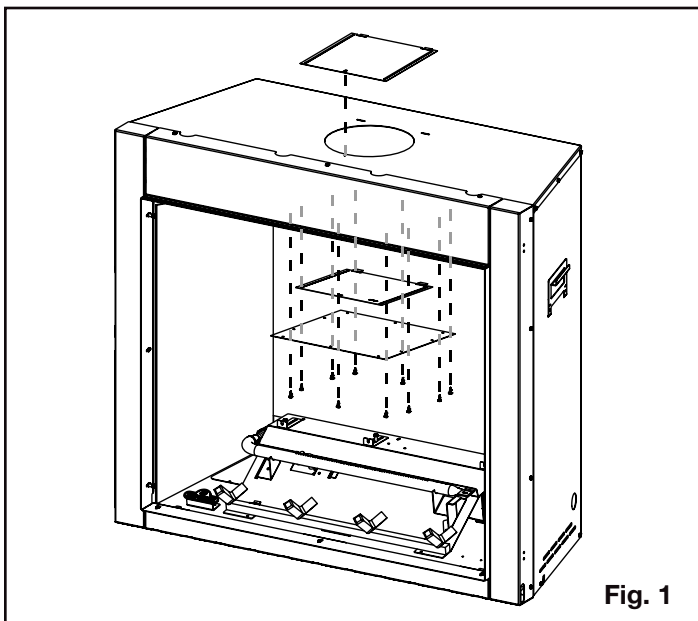

Fig. 1
1. Remove the vent opening cover on the outside of the appliance secured by 1 screw. **(Fig. 1)**
2. Remove the vent cover plate from inside the appliance by removing the screws (number of screws will vary depending on model purchased). The screws will be required for installing the vent kit assembly. **(Fig. 1)**
3. For RSS36/42 models only. Remove the vent opening cover from the inside of the appliance secured by 1 screw. **(Fig. 1)**